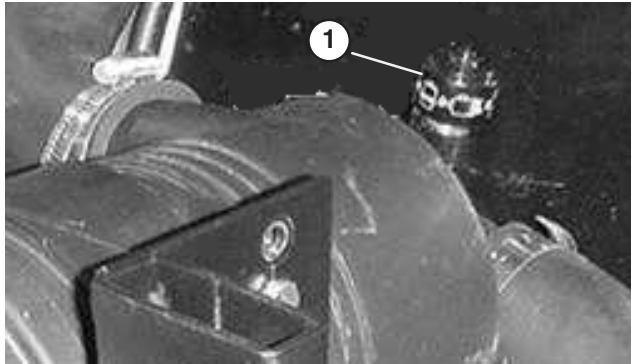

Figure 33
2. Service the air cleaner filter when air cleaner indicator (Fig. 33) shows red or every 400 hours (more frequently in extreme dusty or dirty conditions). Do not over service air filter.
7. Reset indicator (Fig. 33) if showing red.